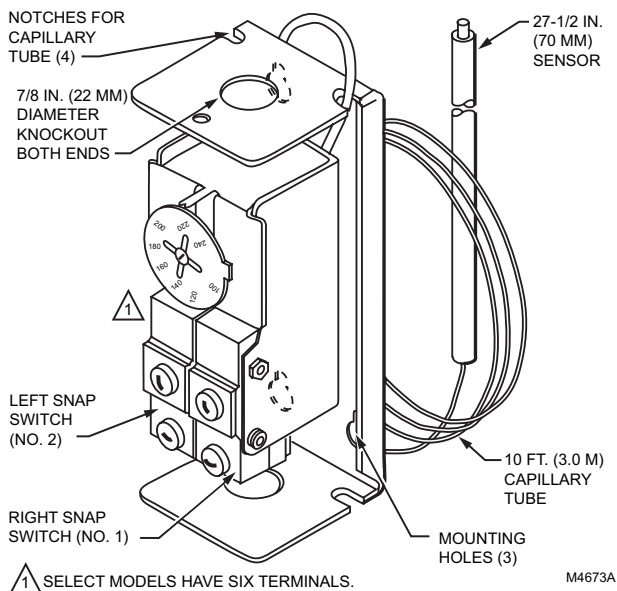
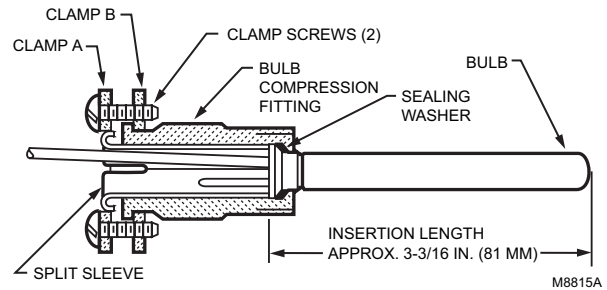

Fig. 9. Internal view of L4008L or L6008G.
Fig. 10. Bulb compression fitting. Use with L4006A,B; L6008A.
The remote temperature-sensing bulb can either be installed in an immersion well (See Fig. 8) that extends into the boiler or tank, or it can be directly immersed in the controlled medium (See Fig. 9). For installations that do not use a well, secure the remote bulb with a bulb compression fitting (See Fig. 10), or capillary compression fitting. (See Fig. 11).
4. Slide the split sleeve into the fitting. (See Fig. 10).